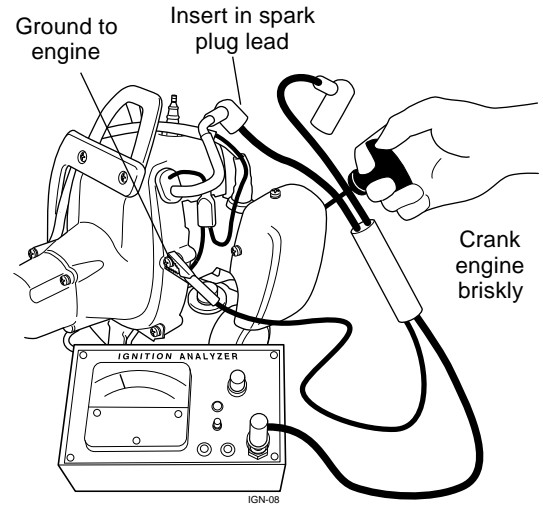

Figure 5.17 Available voltage at cranking speed should be at least 18 kV or higher.
STEP 1. Test the available firing voltage between the high-tension lead and ground. (Figure 5.17).